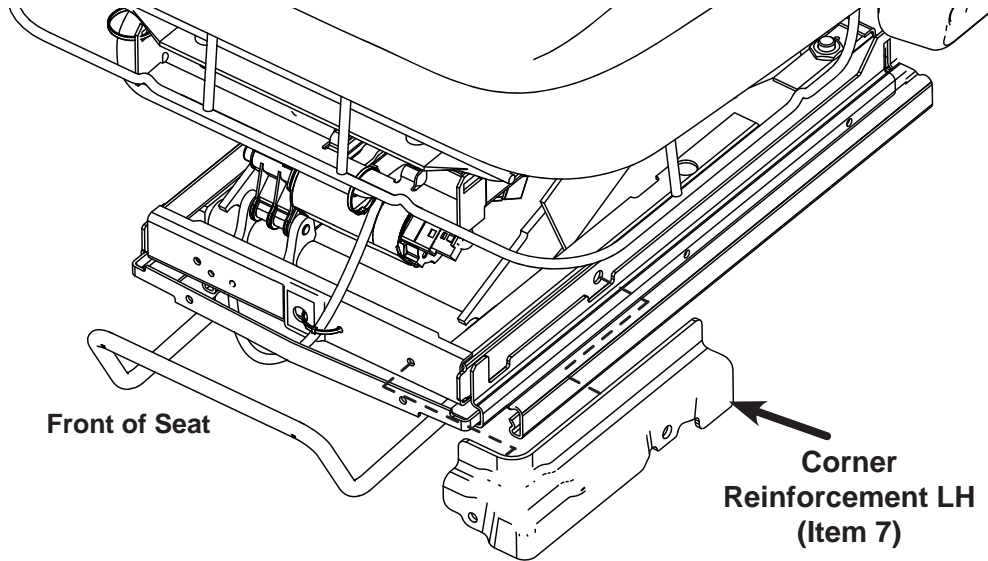

Fig. 15
- 22. Locate (1) LH REINFORCEMENT CORNER, (Item 7), making sure both holes line up (one on side and one in front) See Fig. 15